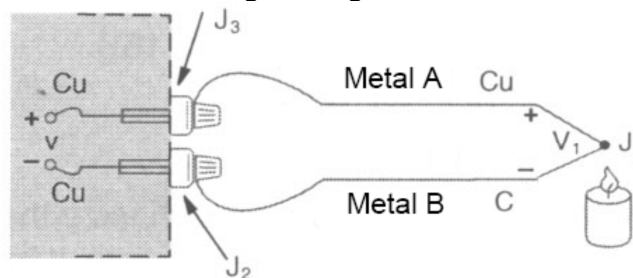

Figure 2.1: Thermocouple
-Type K (chromel{90 percent nickel and 10 percent chromium}–alumel)(Alumel consisting of 95% nickel, 2% manganese, 2% aluminium and 1% silicon) popular type since it has decent accuracy and a wide temperature range; some instability (drift) over time If the thermocouple is connecting direct to a voltmeter as shown in figure 2.1, problems will occur: